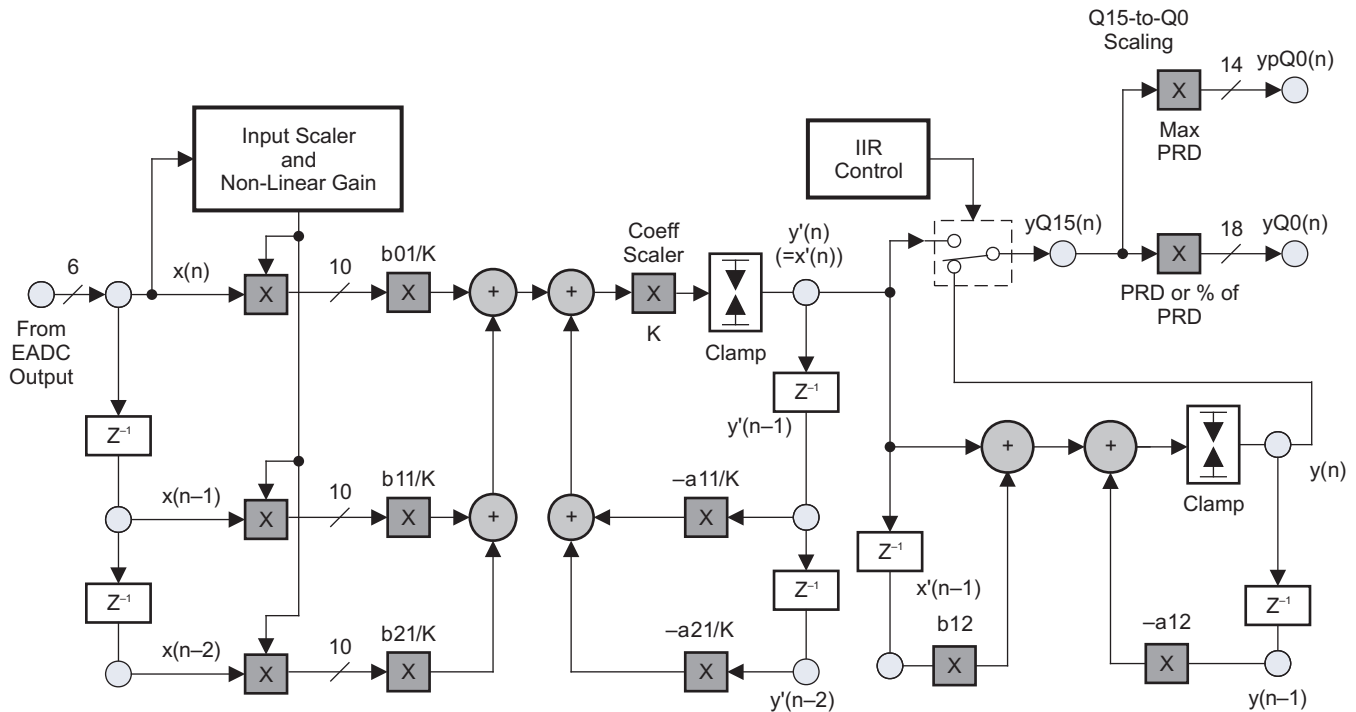

Figure 5. Compensator Architecture
The architecture of the digital compensator in the UCD30xx system is shown in Figure 5. The compensator is a digital filter consisting of a second-order infinite-impulse-response (IIR) filter section cascaded with a first-order IIR filter section. The function of the CLA is to operate on the 6-bit output from the error ADC (EADC) and generate a command output for: (1) a fixed-frequency DPWM duty-ratio control (duty-ratio control mode), or (2) a fixed-duty-ratio DPWM frequency control (resonant mode), or (3) a fixed-frequency DPWM phase-shift control of a slave DPWM with respect to a master DPWM (phase-shift control mode).
The filter mathematics calculates a per-unit command (duty-ratio control or frequency control) output $[Y_{Q15}(n)]$ between 0 and 1. In duty-ratio-control mode, this command output is then multiplied by the user-programmable DPWM switching period (PRD) to determine the duty ratio of the DPWM output. The 18-bit commanded duty ratio output $[Y_{Q0}(n)]$ from the CLA is made up as a 14.4 word. The upper 14 bits specify the low-resolution DPWM clock (PCLK, 250 MHz or 4 ns) counts, and the lower 4 bits specify the high-resolution clock phase, allowing a best-case DPWM resolution of 250 ps. In resonant mode, the per-unit command output $[Y_{Q15}(n)]$ is multiplied by the user-programmable maximum switching period (Max PRD) to determine the switching period of the DPWM output. This commanded switching period output $[Y_{PQ0}(n)]$ is a 14-bit word. In this case, the CLA also generates a fixed-duty-ratio output $[Y_{Q0}(n)]$ that is based on a user-programmable percentage of the maximum switching period. In Figure 5 this programmable percentage is indicated as % of PRD.